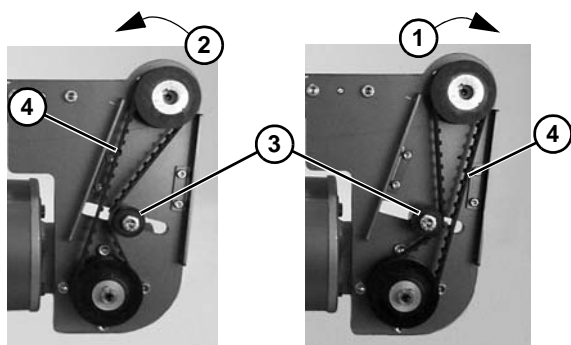
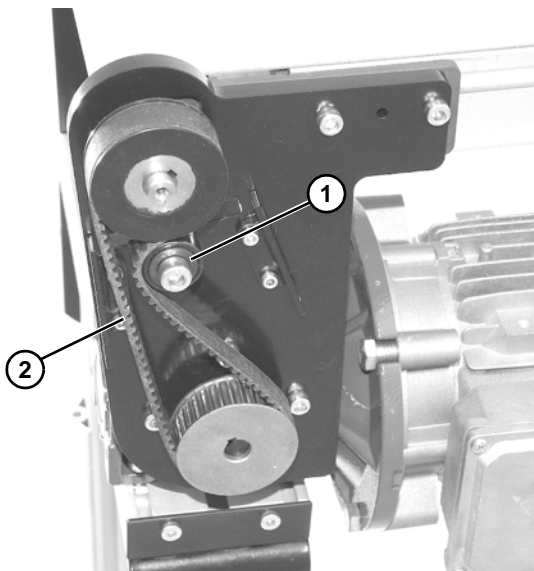

Figure 17
Figure 20
12. Depending on direction of conveyor belt travel (**Figure 17, item 1**) or (**Figure 17, item 2**), position belt tensioner (**Figure 17, item 3**) as shown. Tension belt to obtain 0.125" (3 mm) deflection for 1.0 lb (456 grams) of force at belt mid-point (**Figure 17, item 4**). Tighten tensioner screw to 103 in-lb (12 Nm).
2. Loosen tensioner (**Figure 20, item 1**).
3. Depending on direction of conveyor belt travel (**Figure 17, item 1**) or (**Figure 17, item 2**), position belt tensioner (**Figure 20, item 1**) as shown. Tension belt to obtain 0.125" (3 mm) deflection for 1.0 lb (456 grams) of force at belt mid-point (**Figure 20, item 2**). Tighten tensioner screw to 103 in-lb (12 Nm).
5. Depending on direction of conveyor belt travel (**Figure 17, item 1**) or (**Figure 17, item 2**), position belt tensioner (**Figure 20, item 1**) as shown. Tension belt to obtain 0.125" (3 mm) deflection for 1.0 lb (456 grams) of force at belt mid-point (**Figure 20, item 2**). Tighten tensioner screw to 103 in-lb (12 Nm).